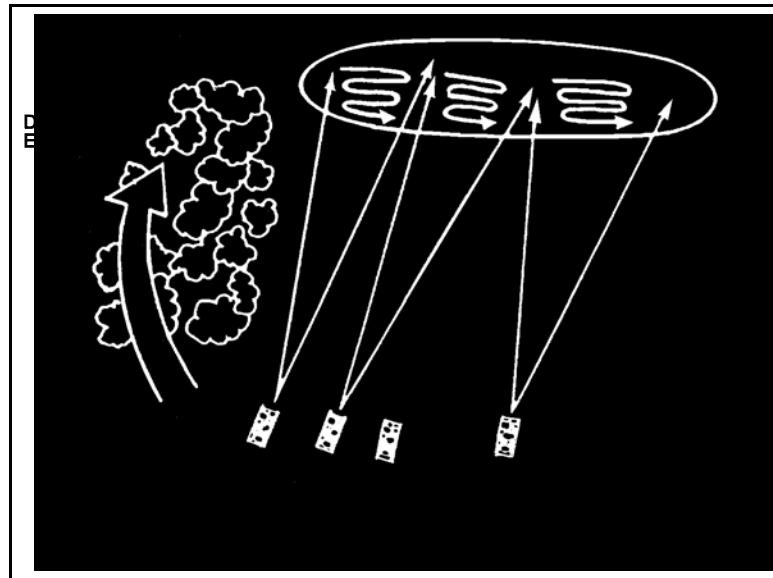

Figure 3. Area fire.
- b. Distribute area fire over a larger area when enemy positions are less obvious (Figure 3, page 3-268). Each weapon or BFV in the base-of-fire element is given a specific part of the